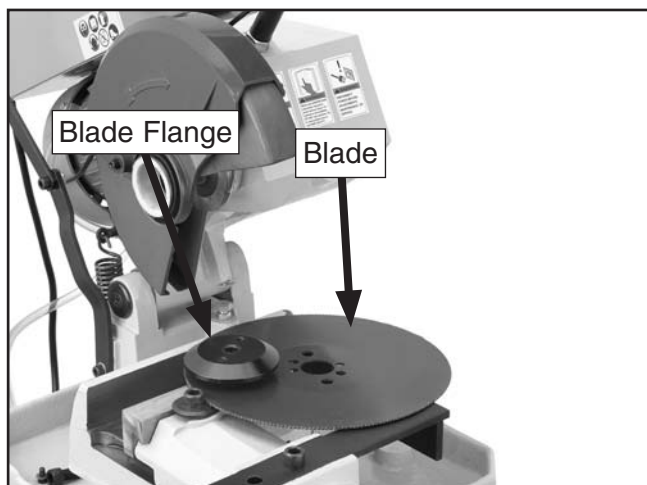

Figure 44. Blade removed.
5. Remove the blade and blade flange (**Figure 44**).